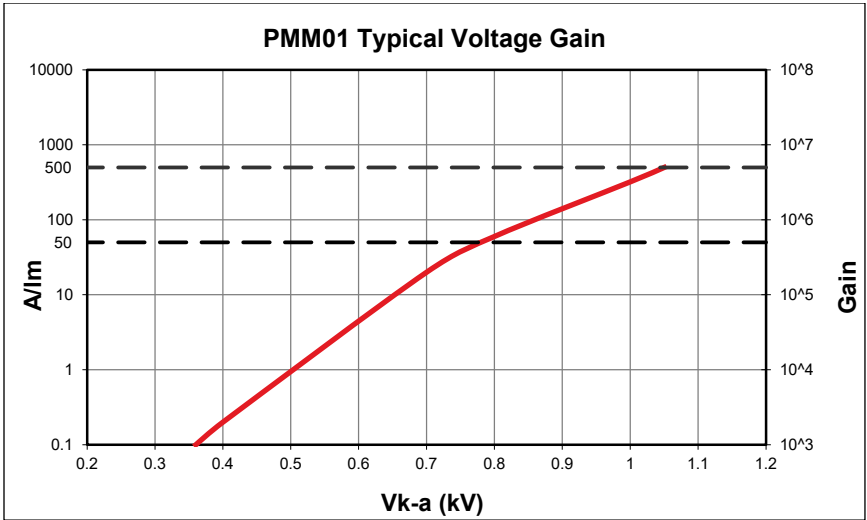

Figure 2 PMM01 Typical Voltage Gain Curve
- The light to voltage conversion can be estimated by factoring the wavelength-dependent responsivity of the photomultiplier tube with the transimpedance gain, i.e., $\text{output (V/W)} = \text{transimpedance gain (V/A)} \times \text{sensitivity (A/W)} \times \text{tube gain}$. The tube gain can be estimated from Figure 2 and the supplied calibration. The label attached to the part will include the max voltage of 500 A.